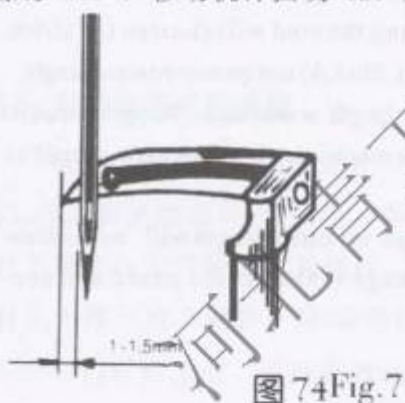

图7 Fig.7
卸下针板，将皮带轮按工作方向转动，使弯针运行至左边，当弯针尖超出机针直径1~1.5毫米(0.040至0.060英寸)时，机针的针眼上缘须和弯针的底边齐平(图7所示)。调整机杆高度时，拧松针杆连轴节螺钉(图3, B)，上下移动针杆至适合位置后再拧紧螺钉(B)，并重新装上针板。
Remove the needle plate. Rotate the machine pulley in operating direction until the looper moving to the left. When the looper point projects 1-1.5mm(.040 to .060in.) left of the needle, lower edge of looper and upper edge of needle eye must be flush in this position (Fig.7) For adjustment, loosen clamp screw(B, Fig.3) in the needle bar up or down as required. Retighten screw (B) and remount needle plate.